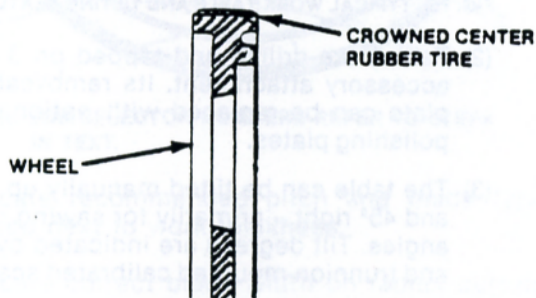

FIG. 12. BAND CENTER SHOULD FOLLOW WHEEL CENTER.
- (1) Open wheel doors. Manually turn wheels and observe how band tracks. See Fig. 12.